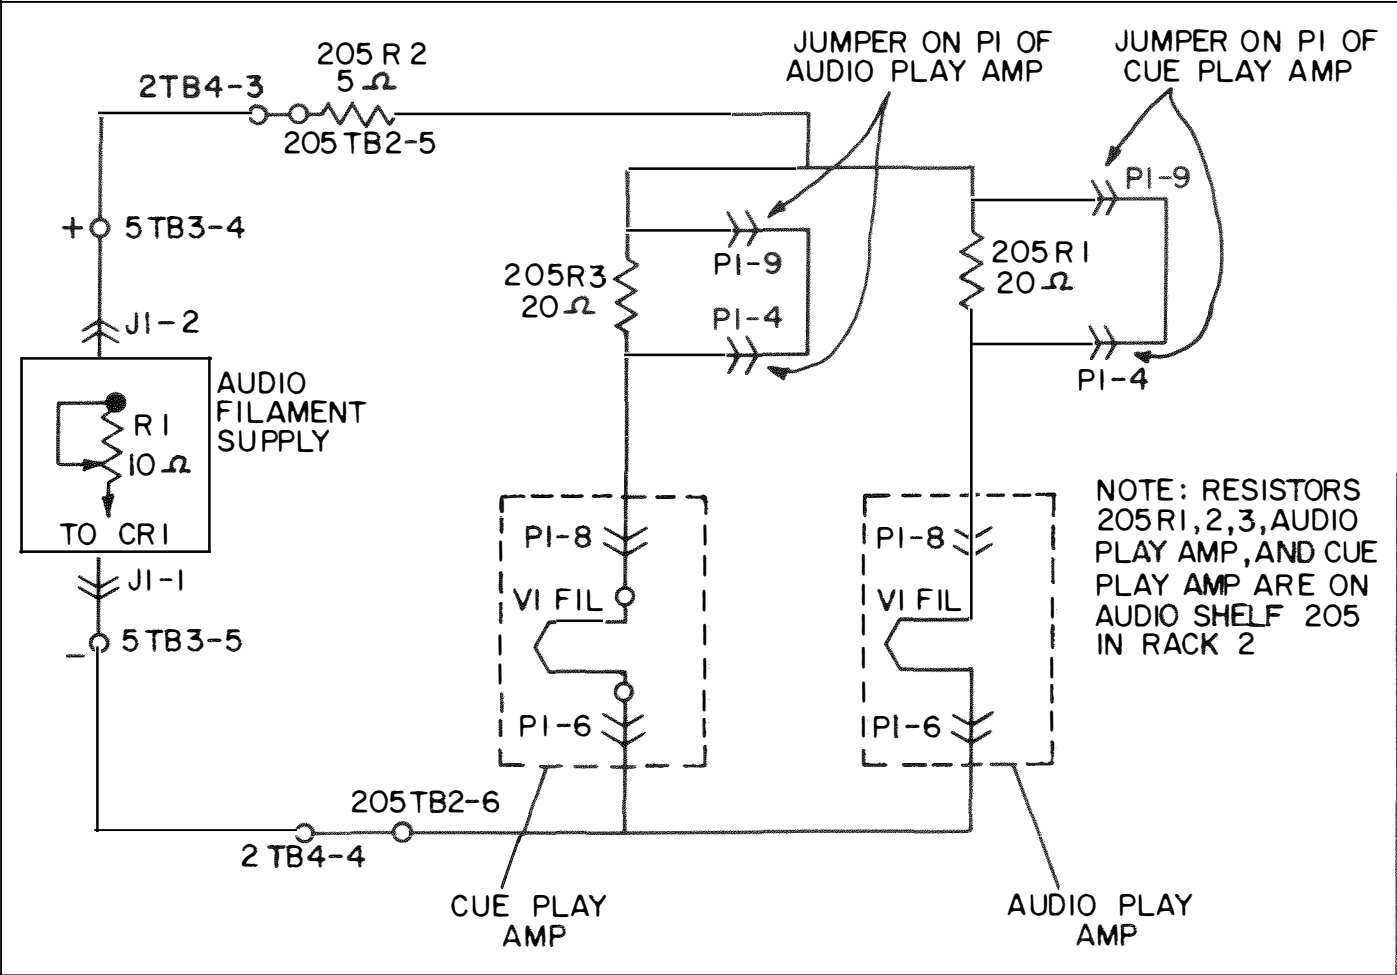
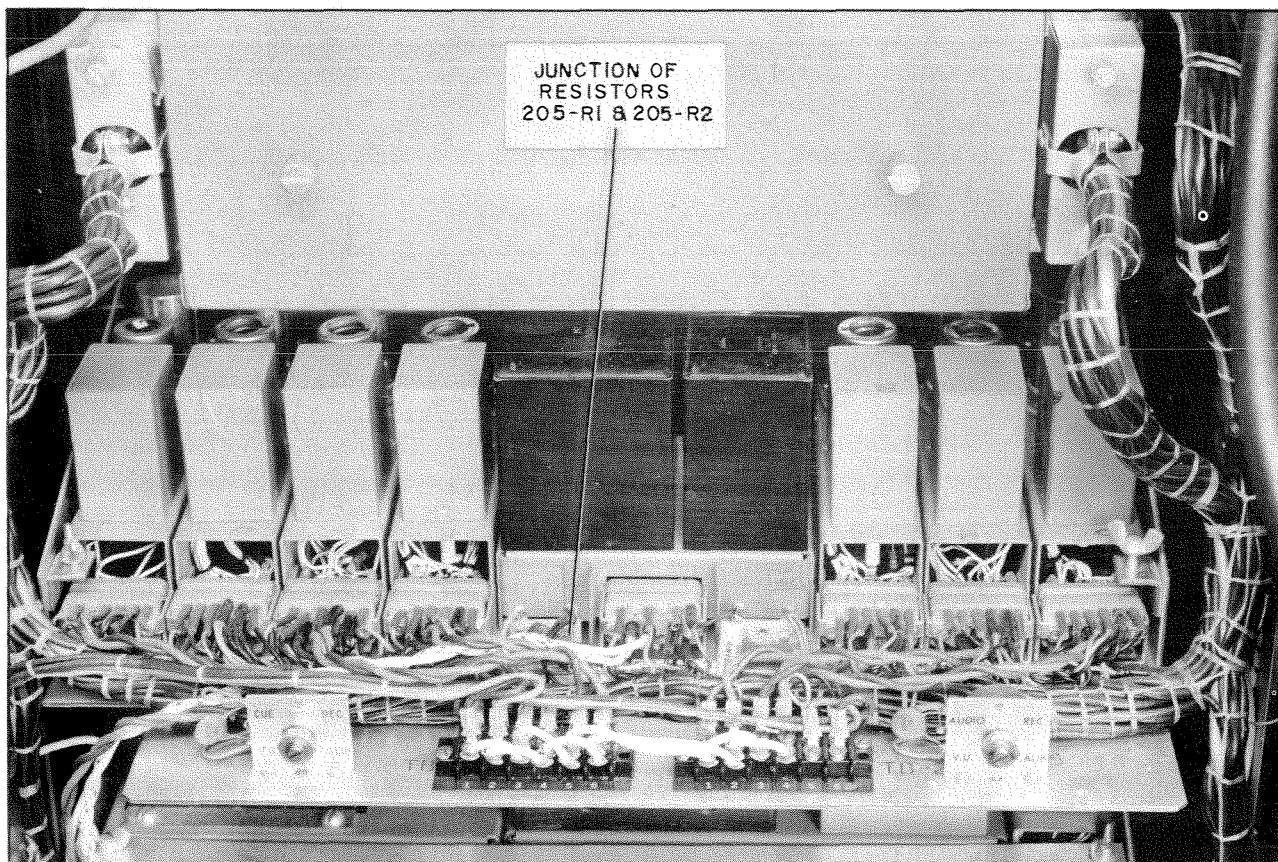

Figure AFPS-2. Power Supply Simplified Schematic Diagram
Figure AFPS-3. Audio Shelf (Unit 205), Rear View
simplified schematic diagram, figure AFPS-2. The three resistors, 205R1, 2, 3 are mounted on the rear of audio shelf 205 in rack 2 (see figure AFPS-3), and the two amplifiers are plugged into connectors on the shelf. The 5-ohm resistor, 205R2, in conjunction with the 10-ohm variable resistor of the power supply sets the output voltage to the desired value.
1. Connect a dc voltmeter between the junction of resistors 205R1 and 205R2 (see figure AFPS-3) on the rear of audio shelf 205 and chassis ground.